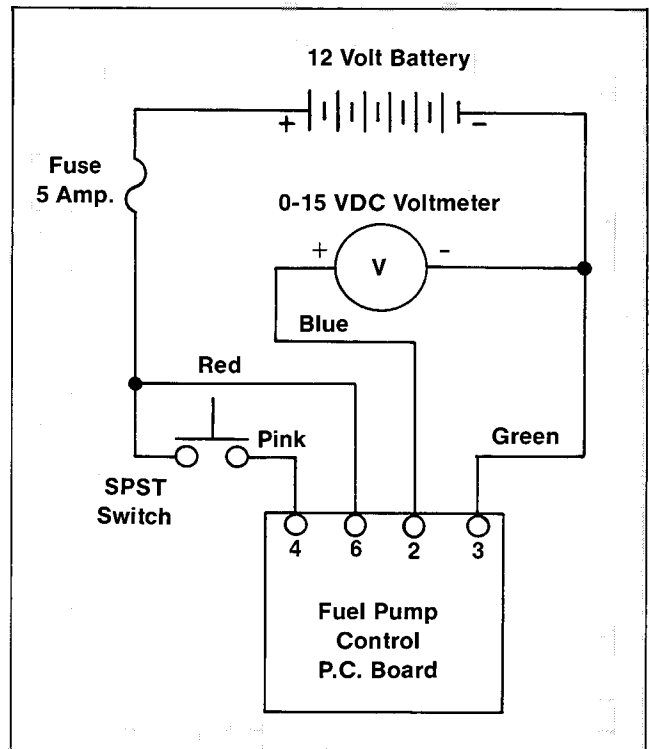

Figure 4-11. Fuel Pump Circuit Board Test
4. Connect fuel pump circuit board as shown in Figure 4-11. Make the final connection between 5 Amp. fuse lead and battery positive (+). If 5 Amp. fuse blows when final connection is made, circuit board is defective — replace.